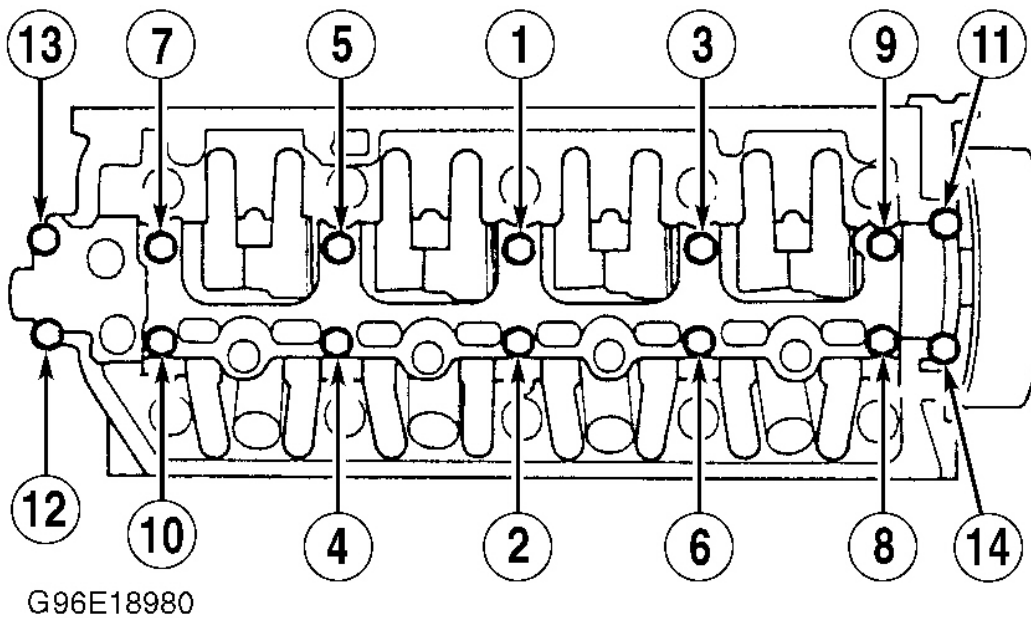

Fig. 24: Camshaft Holder Plate Bolt Tightening Sequence (SOHC)
1. Remove rocker arm assembly. Install camshaft and camshaft holders on cylinder head and tighten bolts in sequence to specification. See **Fig. 23** and **Fig. 24**. See **TORQUE SPECIFICATIONS**.
3. Tighten camshaft holder bolts in sequence 2 turns at a time, to specification. See **Fig. 23** and **Fig. 24**. Ensure rocker arms do not bind on valves. Install timing belt back cover and camshaft pulley(s). Tighten pulley bolt to specification. See **TORQUE SPECIFICATIONS**. To complete installation, reverse removal procedure. Adjust valve clearance. See **VALVE CLEARANCE ADJUSTMENT** under ADJUSTMENTS.
2. Lubricate rocker arms, and install all components onto shaft in original locations. Lubricate camshaft lobes. Apply sealing compound to mating surfaces of No. 1 and 5 camshaft holders. Loosen rocker arm lock nuts before installing rocker arm assembly. Tighten bolts to specification, in sequence. See. **Fig. 23** and **Fig. 24** .